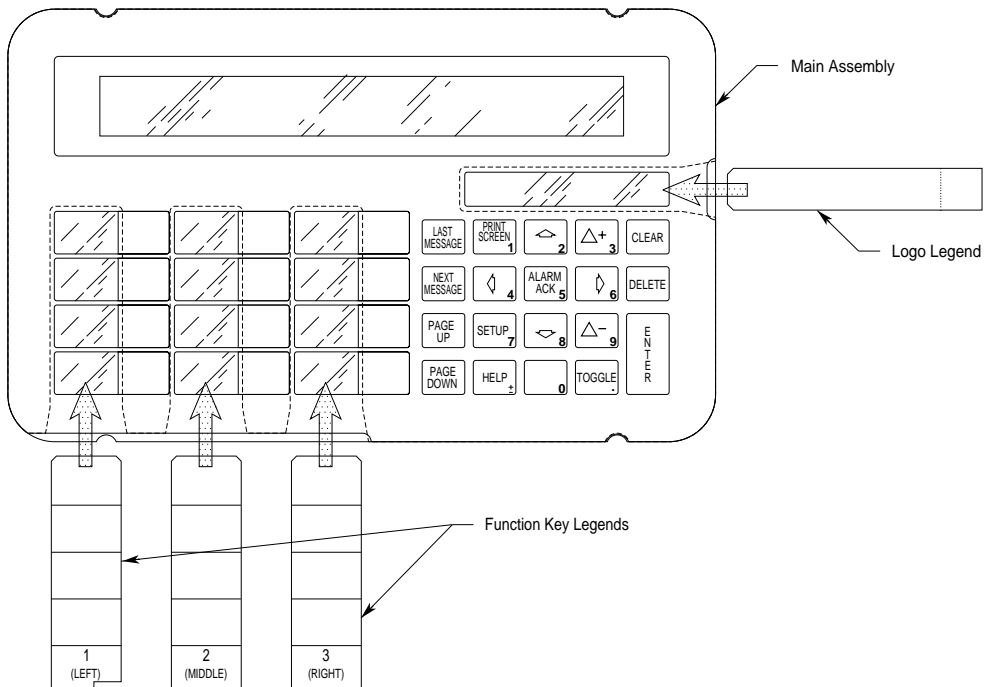

Figure 18 Custom Legend Installation
5. Locate the four legend pockets, refer to Figure 18.